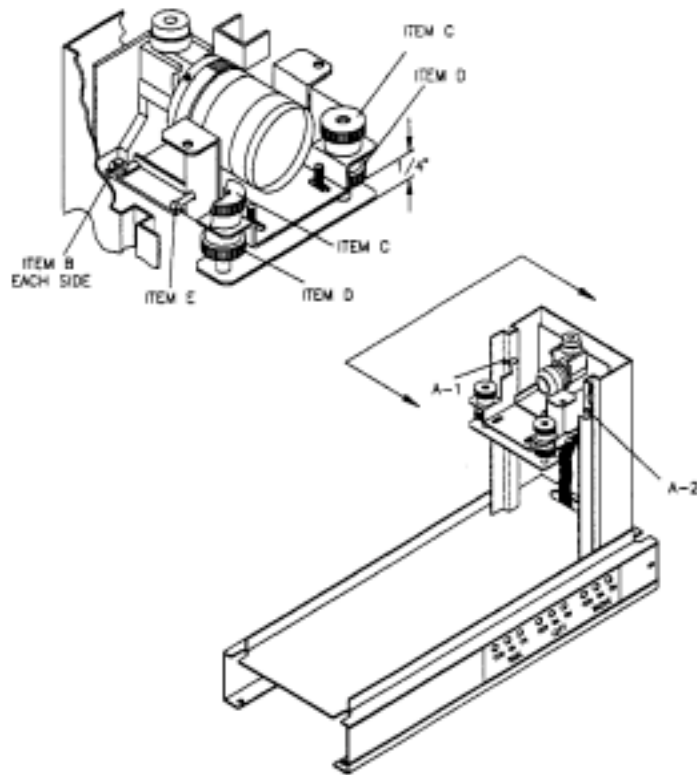

Figure 5-3 Horizontal and Vertical Adjustment Screws
2. REMOVE the cover from the pinsensor and LOOSEN the two height adjustment locking screws (A-1 and A-2) shown in Figure 5-3.
1. LOOSEN horizontal locking screws on pinsensor (Figure 5-3, item B), so that the screw heads are just making contact.
2. LOOSEN two top thumb nuts (Figure 5-3, item C), so there is approximately 1/4" clearance to the washers beneath.
3. ADJUST two bottom thumb nuts (Figure 5-3, item D), so that the front lips of pinsensor head are approximately 1/4" apart and parallel.
8. Using left and right bottom thumb nuts (Figure 5-3, item D), ADJUST pinsensor head until the bubble is level.
10. POSITION the horizontal adjustment screw (Figure 5-3, item E) so that the pinsensor is mid-range of the acceptable position: